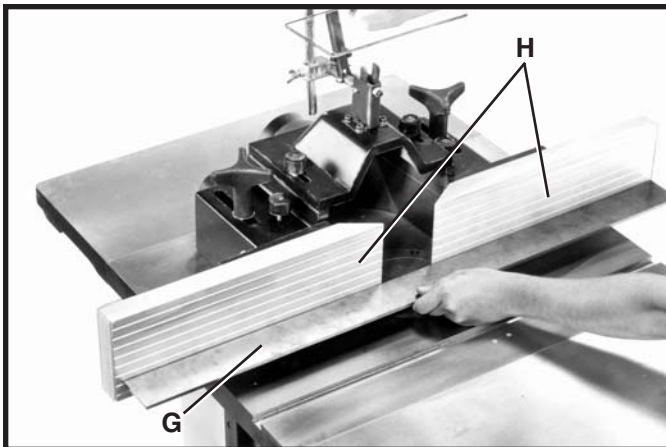
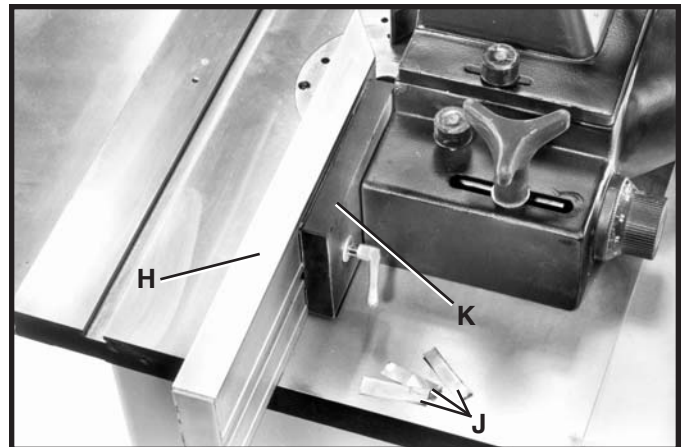

Fig. 50
Fig. 51
6. Using a straight edge (G) Fig. 50, check to see if the two fence halves (H) are parallel to each other. If parallelism cannot be achieved by adjusting one of the two fence halves (H) in or out, shims (J) Fig. 51, can be placed between the fence (H) and fence mount (K).